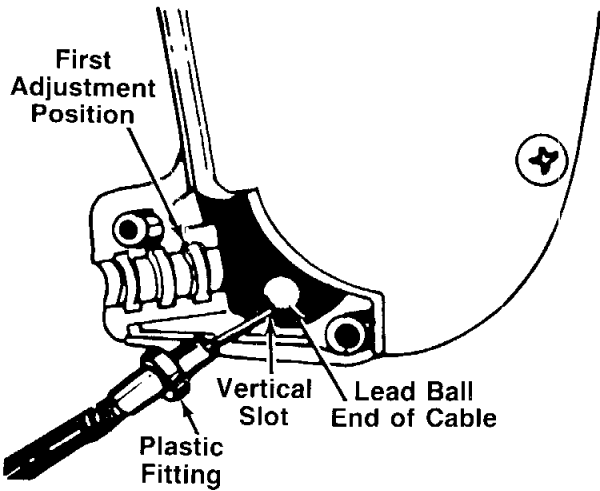

FIGURE 9.
1. Place the lead ball of the cable into the fitting provided in the end of the clutch control lever. Slip the braided wire into the vertical slot as shown in figure 9.
3. Place the plastic fitting on the control cable into the first adjustment position in the clutch control housing. See figure 9.